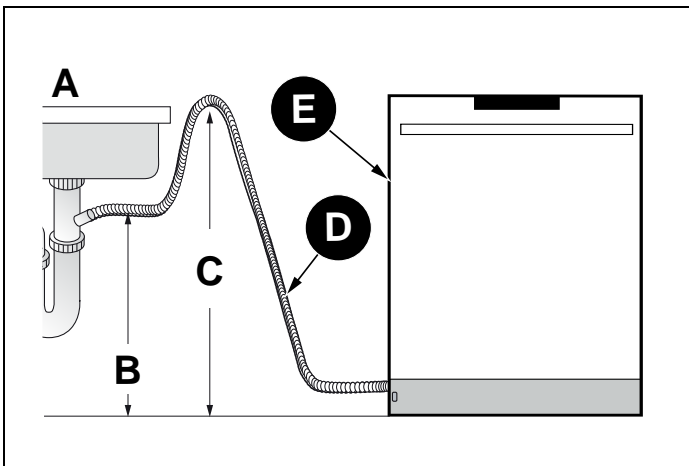

Fig. 20
- 5) If there is no air gap, make sure to suspend the middle of the drain hose well above the sink cabinet base to prevent back flow (see Fig. 20 ).